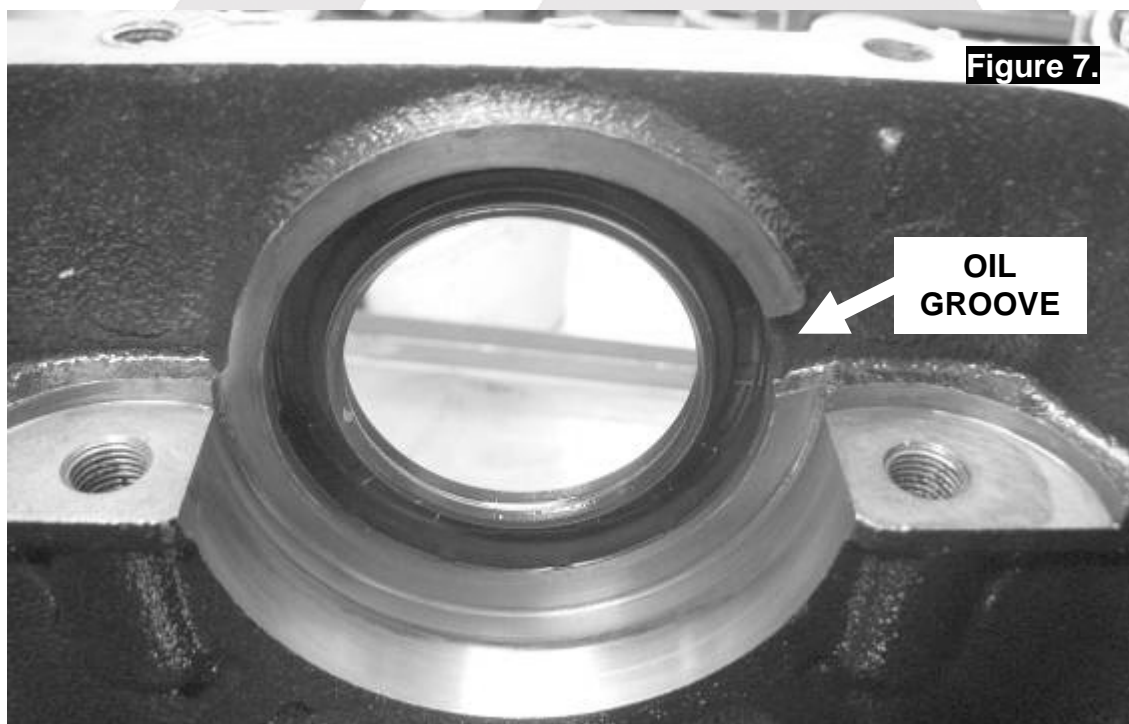

Figure 7.
- Hold the bearing cup and shim pack 'D' (Fig.5.) in place, and insert the *Air Locker* into the housing. Ensure that the seal housing tube is positioned in line with the oil groove in the housing (Fig. 7.).
- Reinstall the *Air Locker* into the differential housing, once again ensuring to line up the seal housing tube with the oil groove (Fig. 7.).